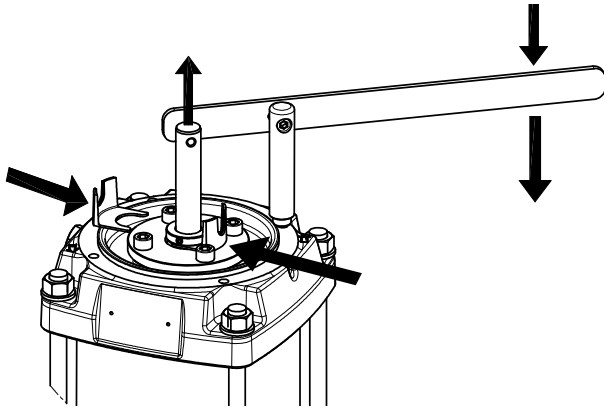

Fig. 4 Insertion of distance pieces
Lift the pump shaft with the lifting tool (pos. F), and insert two of the forked distance pieces (pos. D) from opposite directions, between the shaft seal (pos. 105) and the seal carrier (pos. 58). See fig 4.